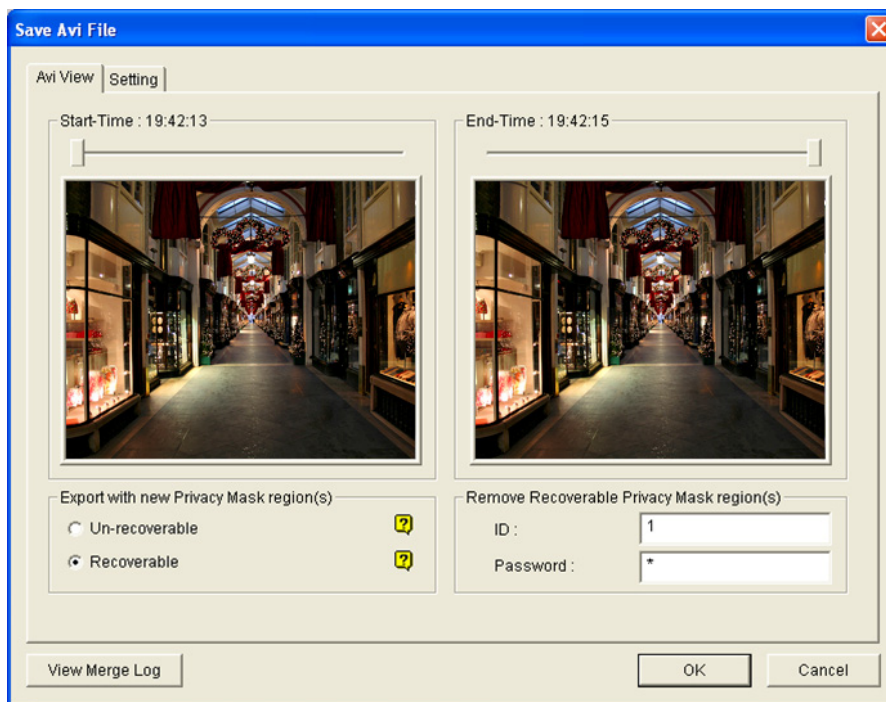

Figure 4-14 Save AVI File
1. In the Export with New Privacy Mask Region(s) section (Figure 4-14), select **Un-recoverable** and/or **Recoverable**.